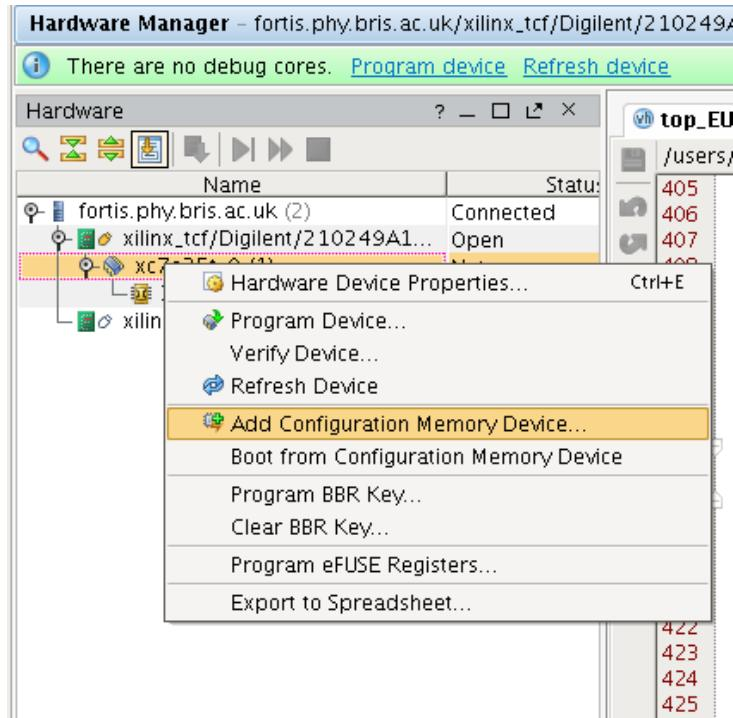
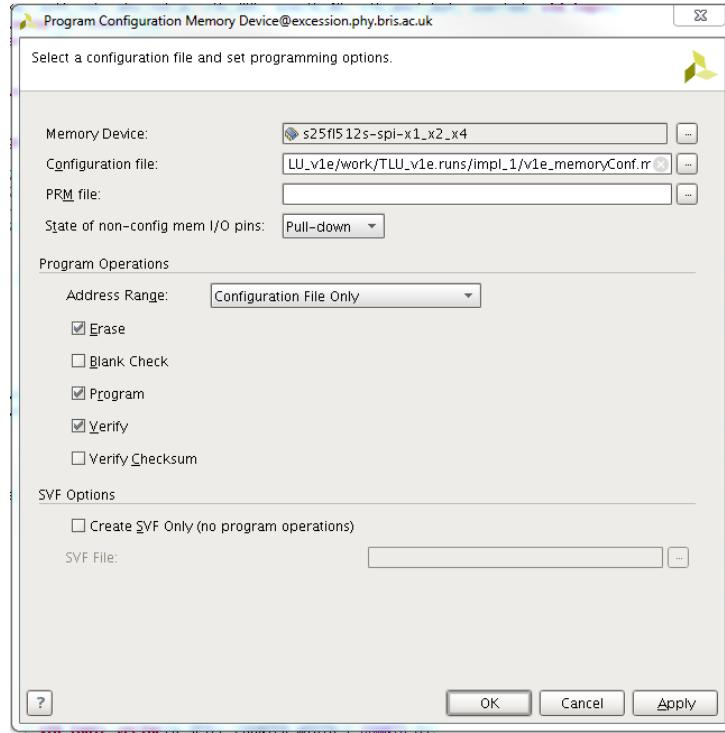

Figure 1.4: Program interface.
Figure 1.5: EEPROM interface. The options shown in the picture are suitable to configure the device correctly.
4. Right click on the FPGA (typically xc7...) and select Program device (see figure 1.4)
figure 1.4. This will open a new window, shown in figure 1.5, from which it is possible to indicate the file to use (with extension .mcr). Make sure that the options are set as shown in figure 1.5.